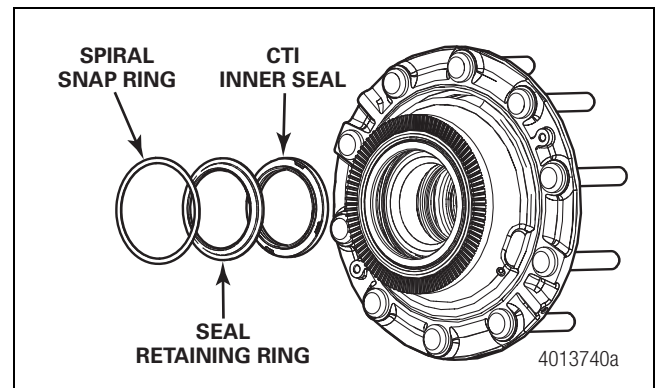

Figure 8.1
4. Remove the CTI inner spiral snap ring, seal retaining ring and seal. Discard the seal. Figure 8.1.